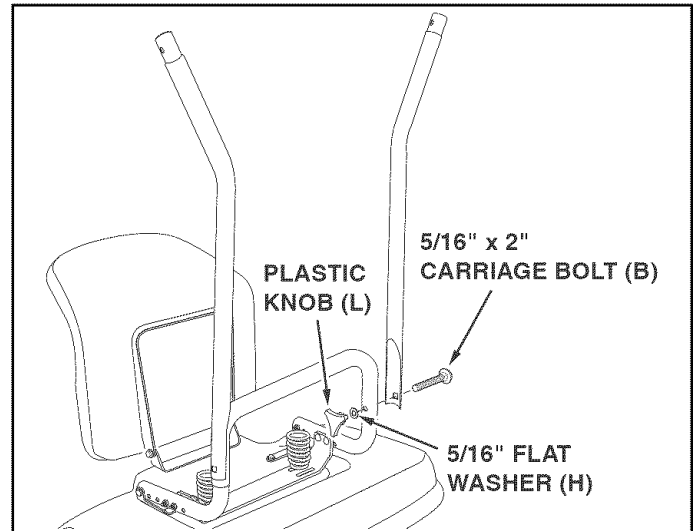

FIGURE 8
STEP 8: (SEE FIGURE 8)
- Assemble the upright tubes to the base assembly using a 5/16-18 x 2" carriage bolt (B), 5/16" flat washer (H) and plastic knob (L) for each tube.